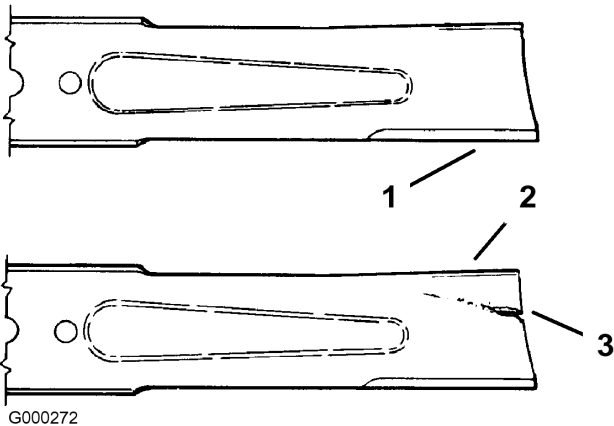

Figure 64
1. Inspect the cutting edges (Figure 64). If the edges are not sharp or have nicks, remove and sharpen the blades. Refer to Sharpening the Blades.
2. Inspect the blades, especially the curved area (Figure 64). If you notice any damage, wear, or a slot forming in this area (Figure 64), immediately install a new blade.